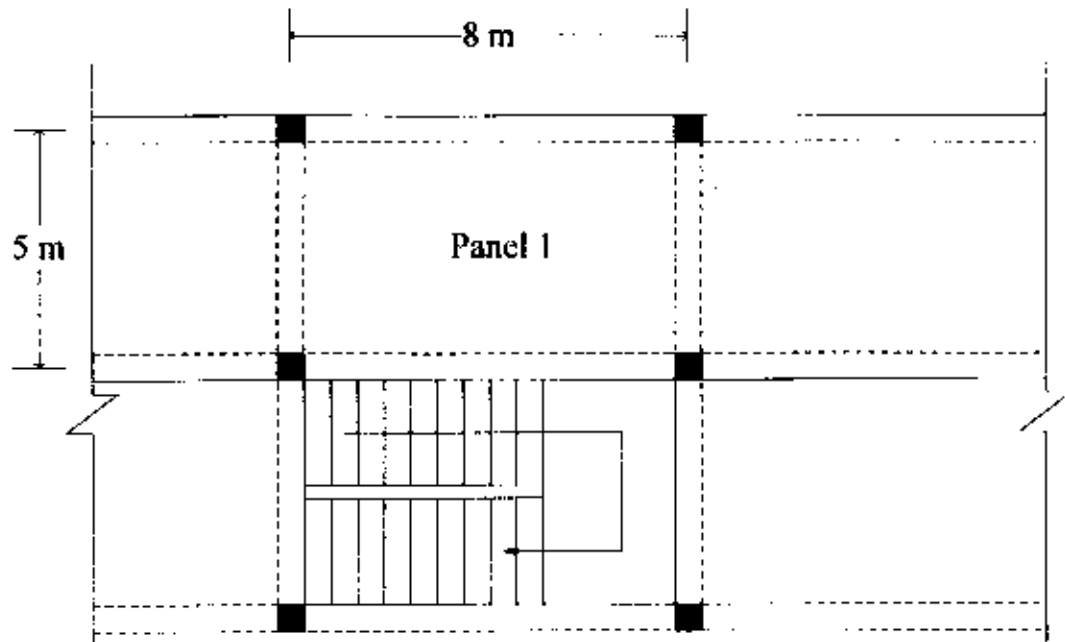

FIGURE Q2
- (c) Figure Q2 shows a continuous slab of 150 mm thickness. Given the following data: